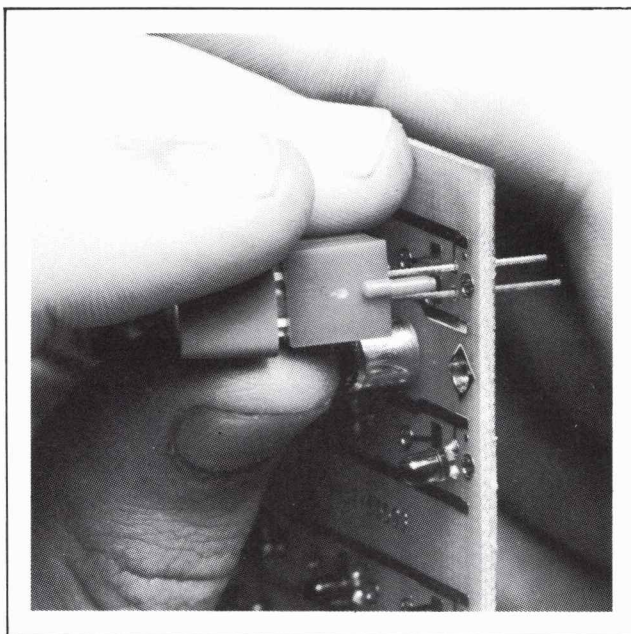

Figure 5-20. Display P.C. Board Assembly Switch/LED Installation.
h. Rotate LED (in bottom of switch plunger) so that the shortest lead will pass through the Display P.C. Board assembly mounting hole that is identified with a dot (Figure 5-20).
i. Install switch and LED combination onto the Display PC Board assembly (Figure 5-20).